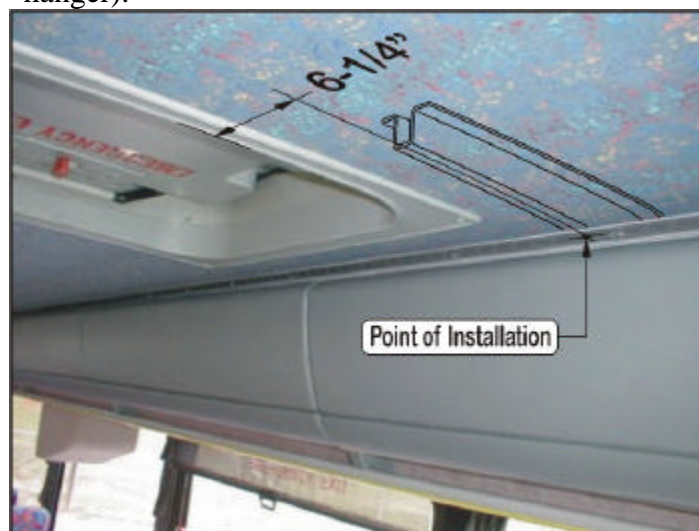

Figure 1
- C. Locate the centerline of the roof bow forward of the front roof hatch by measuring 6 ¼" from the inside of the front hatch forward. See Figure 1. Now locate the intersection of this roof bow with the outside aisle support for the parcel rack on both the right and left side of the coach. Mark this intersection and continue to rear extrusion (inside hanger).
NOTE: Figure 1 shows how to locate bow with parcel rack installed. Continue on same centerline outward for rear extrusion (Inside Hanger)
11. Locate the centerline of the roof bow rearward of the front roof hatch by measuring 6 ¼" from the inside of the front hatch rearward. (Front Extrusion-- See Figure 1) Now locate the intersection of this roof bow with the (outside aisle support) for the parcel rack on both the right and left side of the coach. Mark this intersection and continue to rear extrusion (inside hanger). After locating, follow above steps 7, 8, 9 and 10 above.